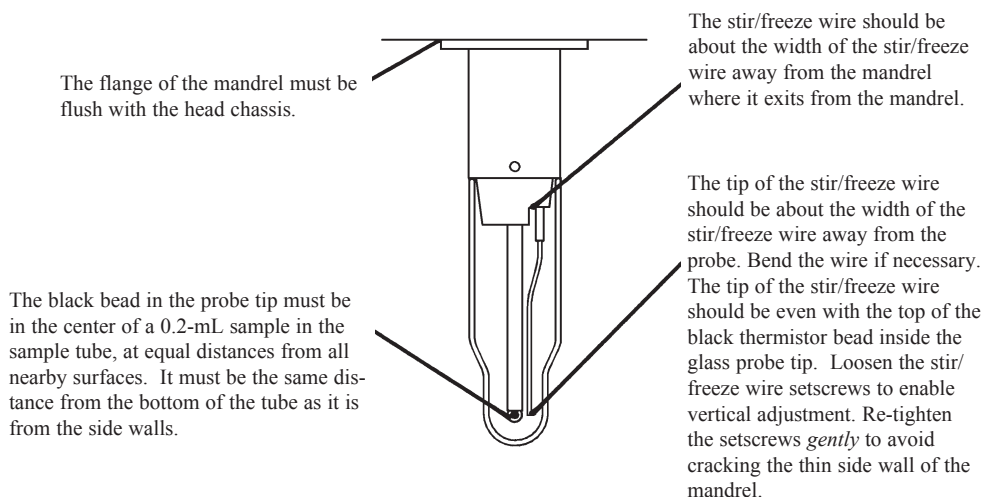

Figure 9: Mandrel, Probe and Stir/Freeze Wire Adjustment
1. Pipette a 0.2-mL sample of H₂O or any of the standards into a sample tube. Then hold the tube up on the mandrel in the position shown in Figure 9. Note in which direction the tip of the probe must be moved (if any) to perfectly center its black sensor bead in the sample volume. Remove the sample tube.
4. Check and adjust the stir/freeze wire position according to the recommendations in Figure 9.